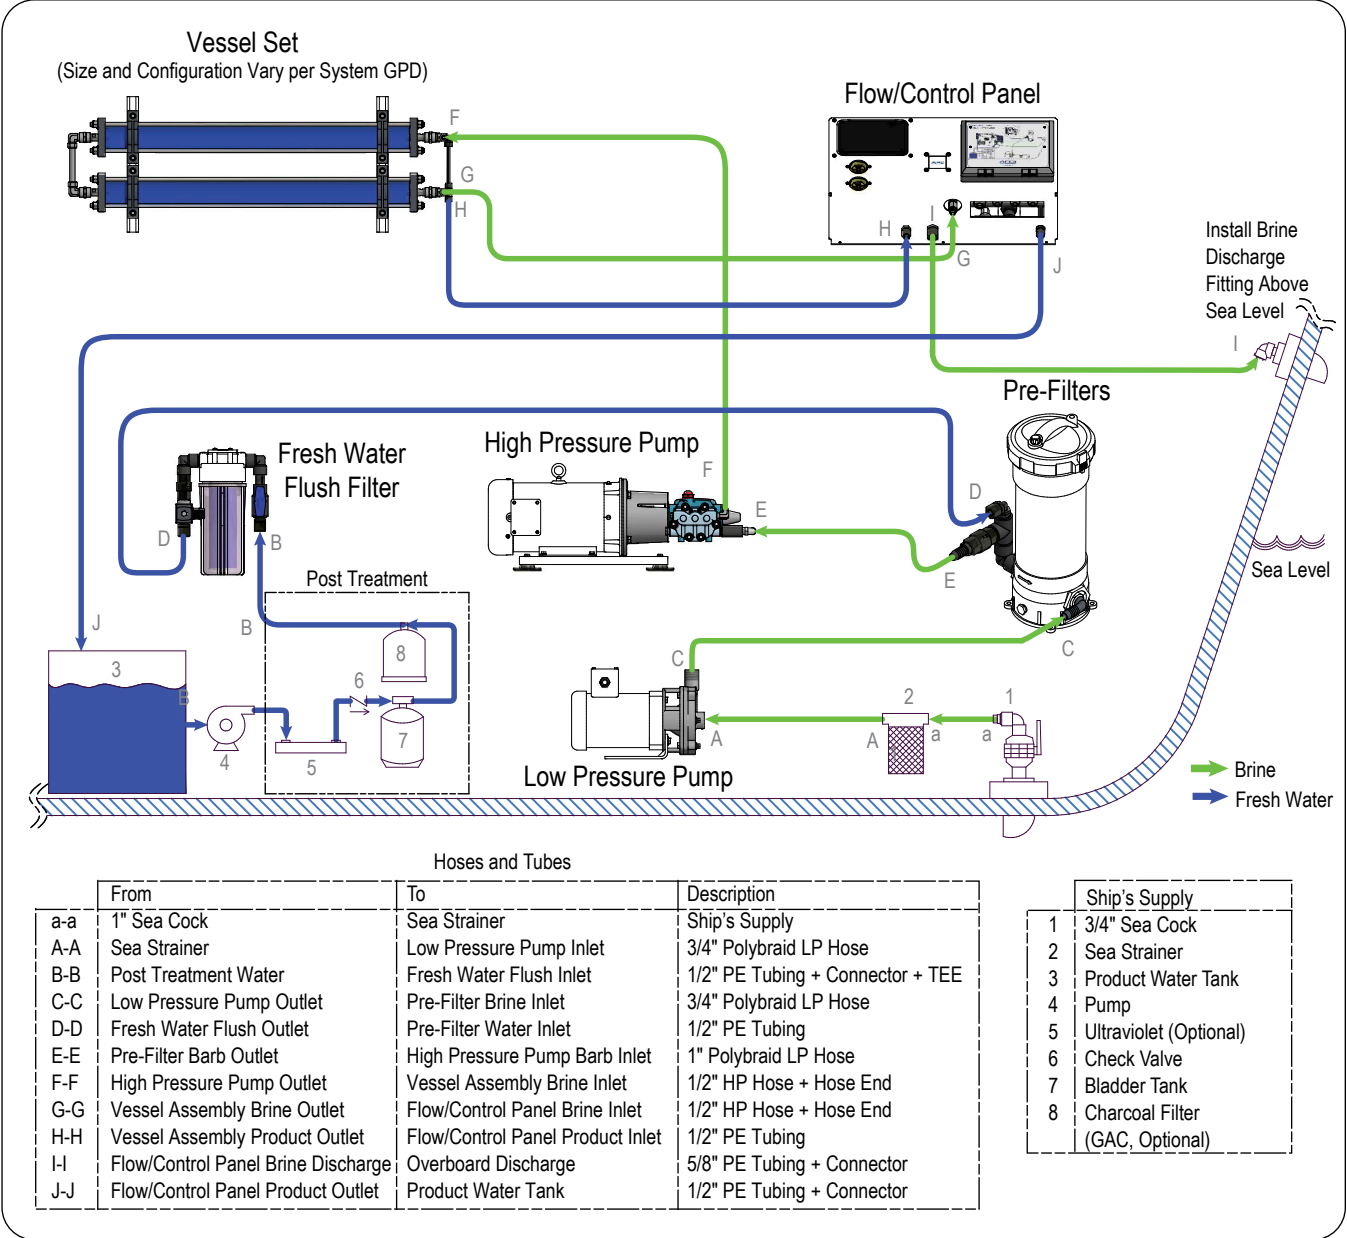

Figure 16: Plumbing Diagram
The plumbing diagram is shown in *Figure 16*. If you are installing optional accessories with the system, refer to the manual provided with the accessory. The plumbing installation is discussed in "SYSTEM INSTALLATION / PLUMBING" on page 46.
- Letters A-A to H-H refer to specific tubes and hoses from *Figure 16 on page 43*.
Using the above connector and tee, connect one end of the 1/2" PE Tubing to the **ship's pressurized water supply 1/2" NPT connection**. This connector should be on the pressure side of the fresh water system after the accumulator tank. Measure the run as straight as possible to the fresh water flush filter, inlet side and cut the tube to length. (See *Tube G-G, Figure 16*.)
Using the above connector, attach one end of the 5/8" PE Tubing to the **ship's brine discharge thru hull 1/2" NPT connection**. Be sure the discharge thru-hull is mounted at or above the water line. Measure the run as straight as possible to the right panel of system and cut the tube to length. See *Tube F-F, Figure 16*.
Using the above connector, attach one end of 1/2" PE Tubing to the **ship's unpressurized potable water storage tank 1/2" NPT connection**. Always make the connection on the top of the tank. Measure the run as straight as possible to the right panel of the system and cut the tube to length. (*Tube E-E, Figure 16*)
Refer to the *Figure 16 on page 43*. Proceed as follows to connect the plumbing to the system components: